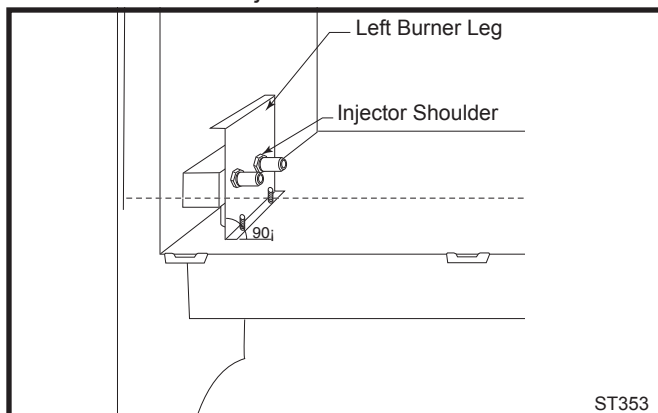

Fig. 40 Be sure to maintain 90° angle at left burner leg.
- NOTE:** It is very critical to keep the left burner leg, which holds the injectors, at a 90° angle to the base. (Fig. 40) This keeps the orifices aligned with tubes on the inside of the burner. Failure to do so could affect the flame appearance and performance of the unit.